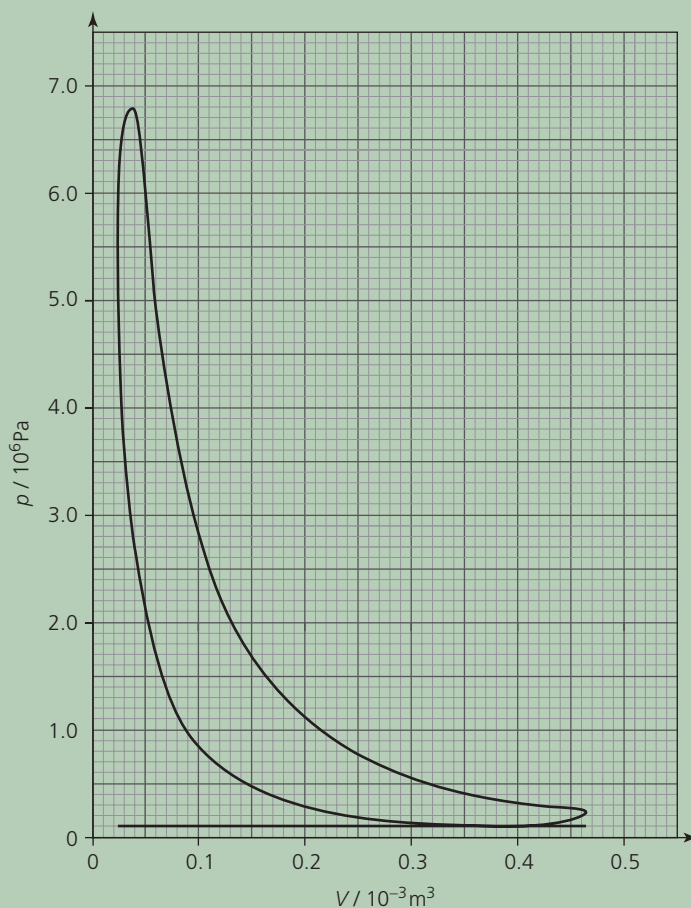

Figure Q3
3. A four-stroke diesel engine with four cylinders is running at constant speed on a test bed. An indicator diagram for one cylinder is shown in Figure Q3 and other test data are given below: